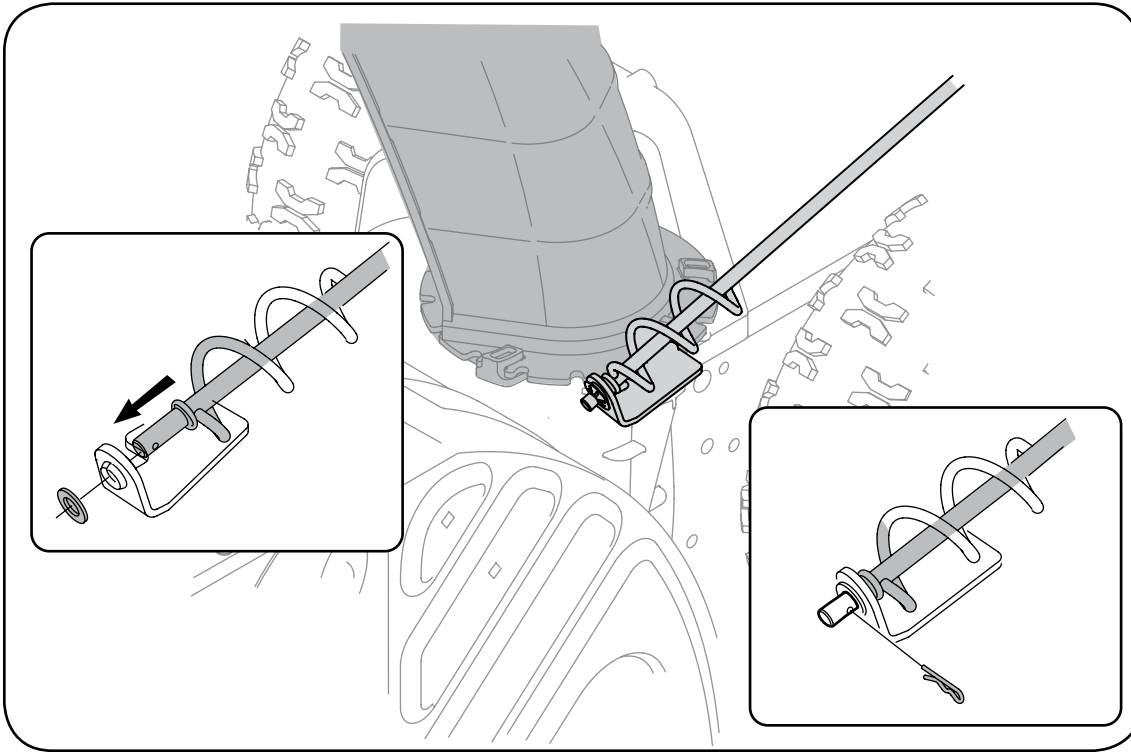

Figure 3-5
6. Remove the flat washer and hairpin clip from the end of the chute directional control, Figure 3-5.